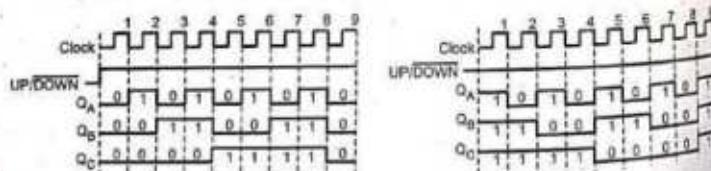

Fig. 5.9.36 Timing diagram
- Fig. 5.9.36 shows the timing diagram for 3-bit up-down counter.